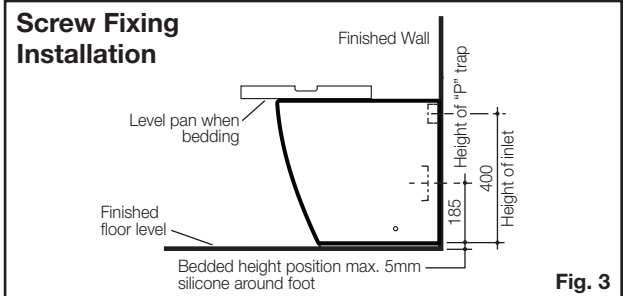
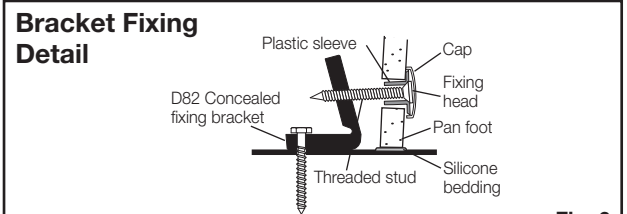

Fig. 3
Fig. 6
- 9- Position and push pan into connector ensuring that the flush pipe and keeseal engage into the pan inlet. Locate plastic fixing sleeve into holes in the pan. Fit screw into the bracket and tighten to bed pan to floor while ensuring level, as detailed in Fig. 3. **IMPORTANT-DO NOT OVER TIGHTEN, AS THIS MAY CRACK THE PAN FOOT.** Snap on plastic cap, as detailed in Fig. 6.